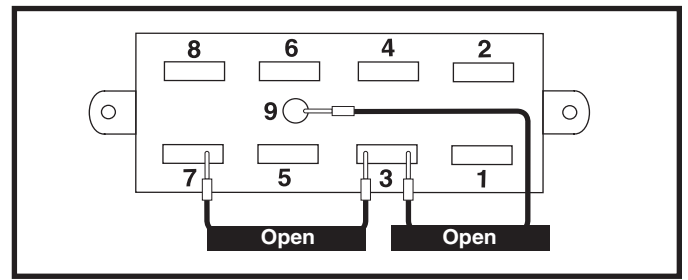

Figure 29. Connector 2a
2. Measure resistance across pin 3 and pin 9 and across pin 3 and pin 7 on connector 2a. **See figure 29.**
- If your multimeter indicates an open on either tests, then replace the VSI controller (1) and retest the system.